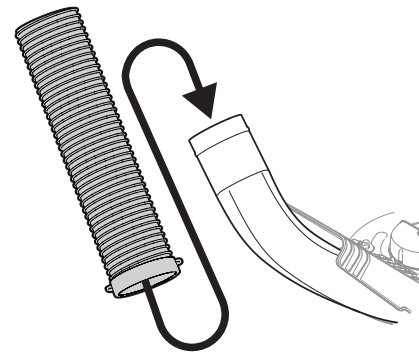

Figure 3
3. Lift hose by handles on the ring installed in Step 2. Slide hose over boot mounted on the cutting deck, as shown in Figure 3.